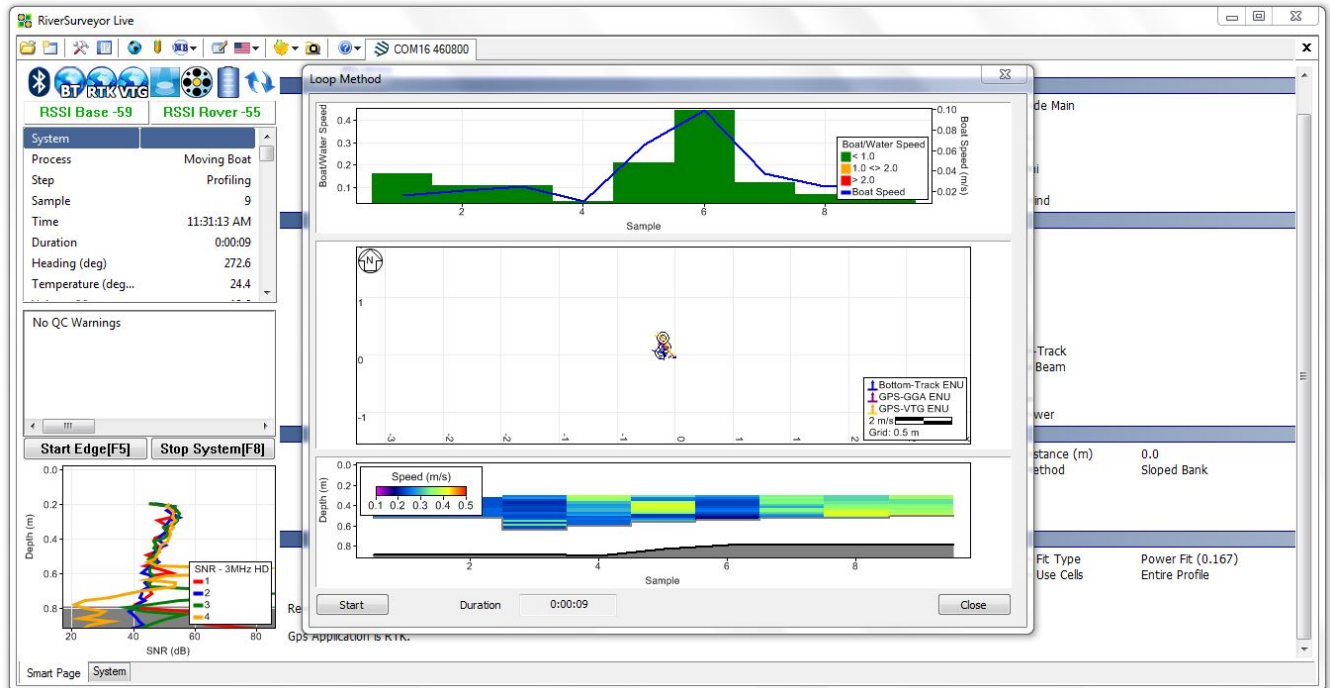

Figure 177. Start Loop Method
6. In the PC software, a Loop Method window will appear in front of the transect page as shown in **Figure 177**. Make sure the boat is stationary and located at your starting position. Press the **Start** button and proceed to make a steady pass back and forth across the stream. The Boat/Water ratio, Boat Speed, Ship-Track, Contour-Plot and Duration are displayed in the window.